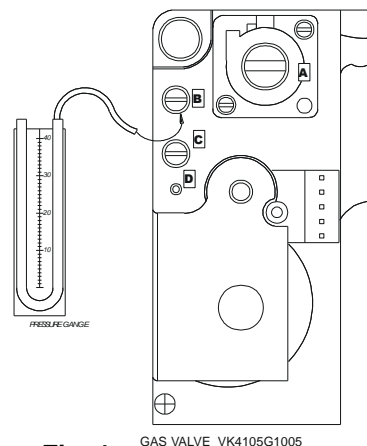

Fig. 1
- remove the aluminium protective cap from screw A (fig.1) counter-clockwise;
- once ignited, set the "P1 MAX. HEAT" trimmer (fig.2) to the maximum and turn screw A (fig.1) on the stabiliser clockwise to increase pressure or counter-clockwise to decrease pressure (see the table below for calibration pressures);